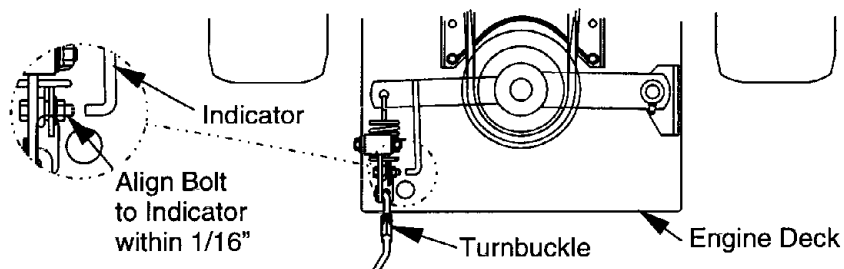

FIG. 12
- c) Look through the round hole in the left rear corner of the engine deck to inspect blade clutching belt tension. Bolt on blade engagement linkage bellcrank and indicator arm should align within 1/16" (See fig. 12). Refer to section 5.2.2 for adjustment.
- With blade drive engaged, adjust the linkage length by loosening the locknut on the turnbuckle and adjusting the turnbuckle so that the bolt on the bellcrank and the indicator arm align with each other within 1/16". See Figure 12. Tighten locknut against turnbuckle.